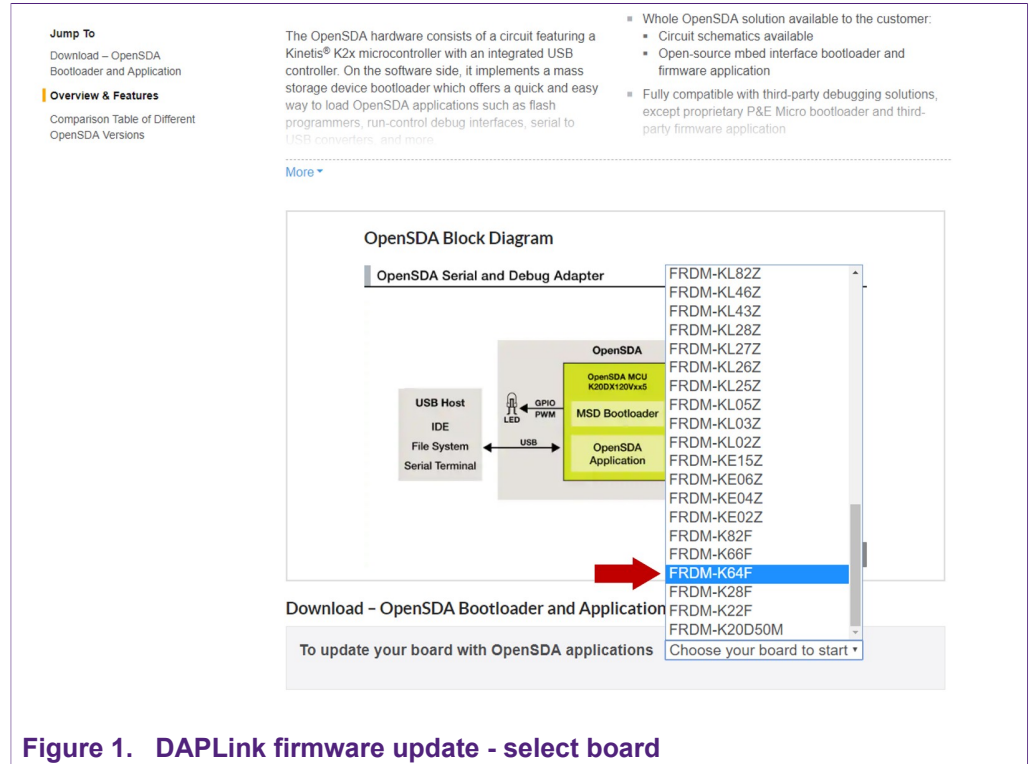

Figure 1. DAPLink firmware update - select board
2. Scroll down and select FRDM-K64F board from the **Download - OpenSDA bootlader and application** drop down list as indicated in Figure 1: